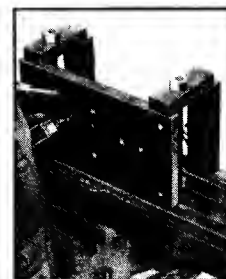

Fig. 15
7. **DRILLING - LAYOUT:**—By using a chuck mounted on the miller spindle and a center drill, work can be accurately prepared for drilling. (See fig. 15.)